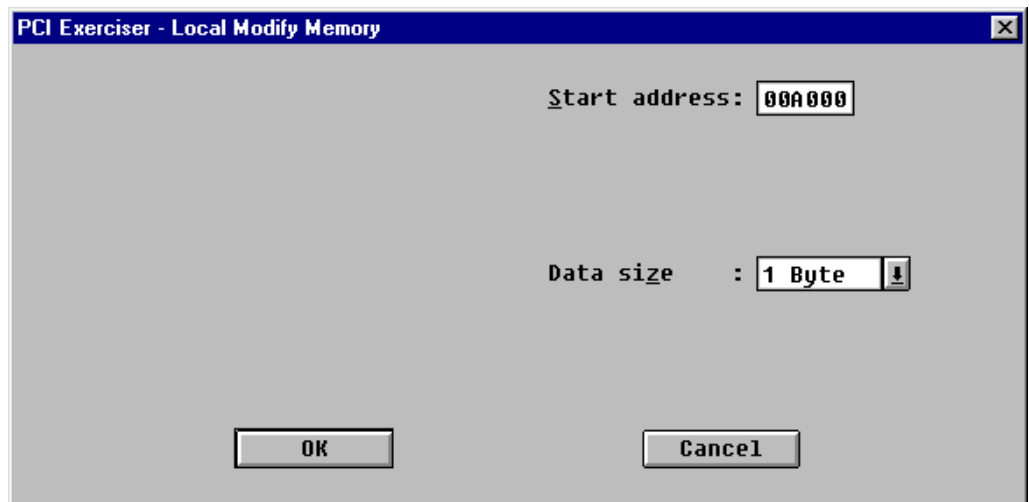

Figure 6.39 Local Modify command
**Local menu:** Select **Modify** from the **Local** menu, and the dialog box in Figure 6.39 appears.